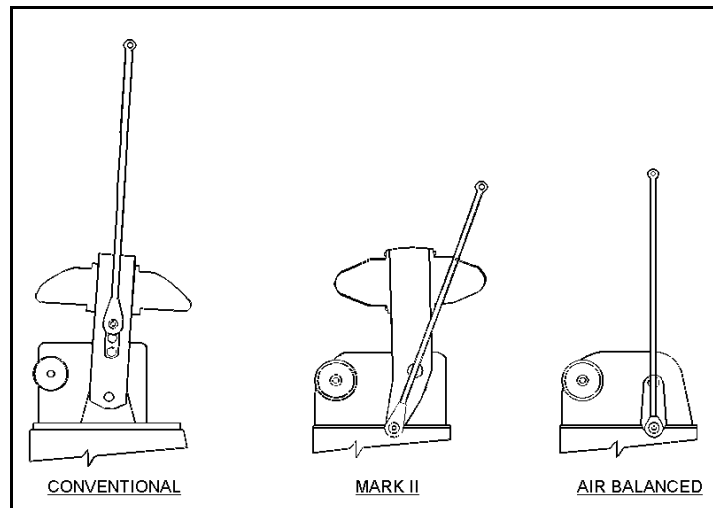

Figure 6-7. Crank/Pitman Alignment at Bottom Dead-Center
- a. Align the crank and pitman. The centerlines of the pitman and the crank should be in perfect alignment. See Figure 6-7.